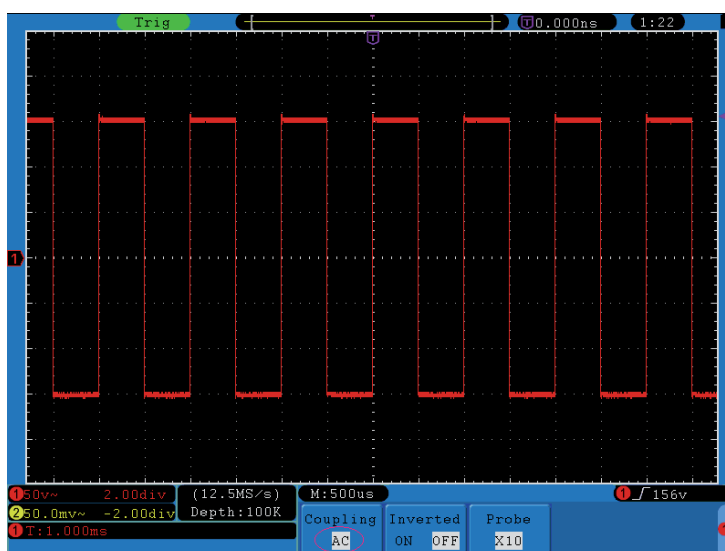

Figure 15. AC Coupling Oscillogram.
- 4 Then, press **F2** button to select the Coupling item as "AC". The direct current component of the signal is blocked. The waveforms are shown as **Figure 15**.